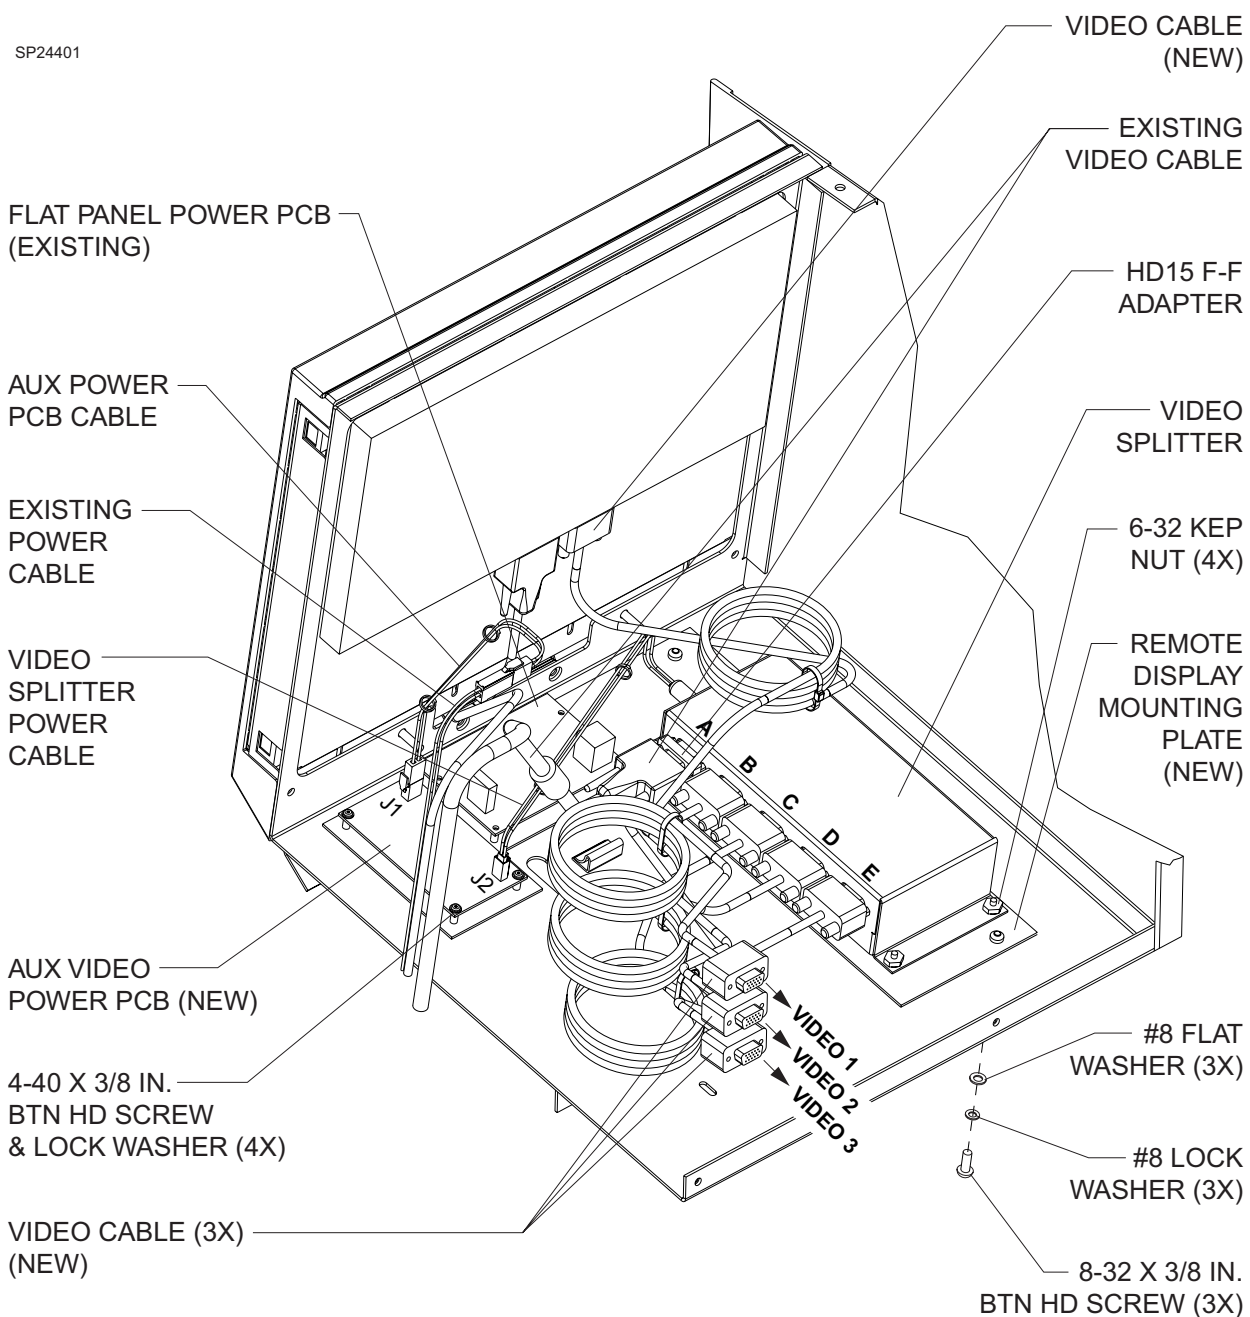

FIGURE 1. Video Splitter Installation
- 1.7 Remove the existing flat-panel power PCB from its mounting plate. This PCB will be re-mounted to the new plate (4117796). See Figure 1.
- 1.9 Attach the video splitter assembly (4117803) to the remote display mounting plate with four 6-32 Kep nuts as shown in Figure 1.
- 1.11 Install the new aux video power PCB (4117521) on the new mounting plate as shown in Figure 1. Use four 4-40 x 3/8 in. btn hd skt screws and #4 lock washers.
- 1.13 Connect the video splitter power cable (4117804) from J2 on the aux video power PCB to the video splitter as shown in Figure 1.
- 1.14 Locate the existing un-used two-conductor power cable at the side of the chassis. Join this power cable to one end of the aux power PCB cable (4117805). Connect the other end of the aux power PCB cable to J1 on the aux video power PCB. See Figure 1.
- 1.15 Remove the female stud from the female-to-female HD15 adapter (4117784) and install it into Port **A** on the video splitter. See Figure 1.
- 1.17 Connect the video cable (4117782) from Port **B** to the flat panel display. Coil the excess cable length and tie-wrap as shown in Figure 1.
- 1.18 Connect the three remote video cables (4117783) to Ports **C**, **D** and **E** on the video splitter. Coil the excess length on each cable, and tie-wrap as shown in Figure 1.